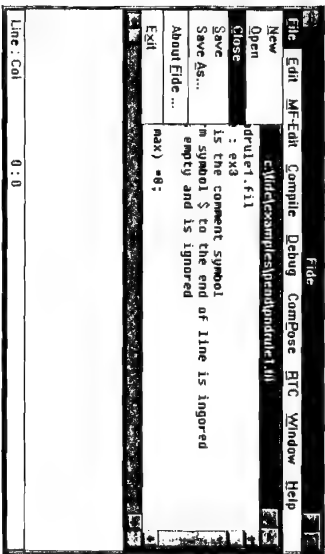

Figure 5-8 Close a File
2. Select the Close option from the File menu Figure 5-8.
Select the Close option from the File menu to close the OPI.FIL file window. The location is the same as shown in Figure 5-8.
Select the Close option from the File menu to close the PDEMO.FIL file window. The location is the same as shown in Figure 5-8.